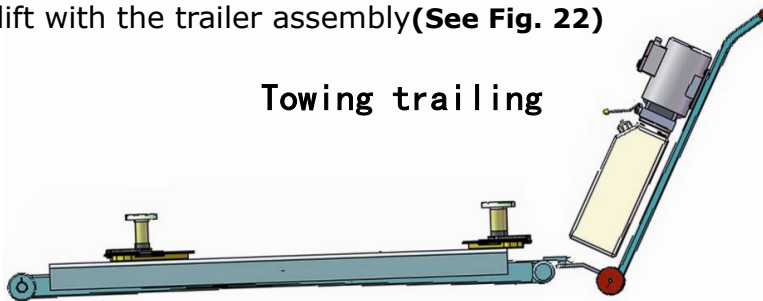

Fig. 22
4. Move the lift with the trailer assembly (See Fig. 22)